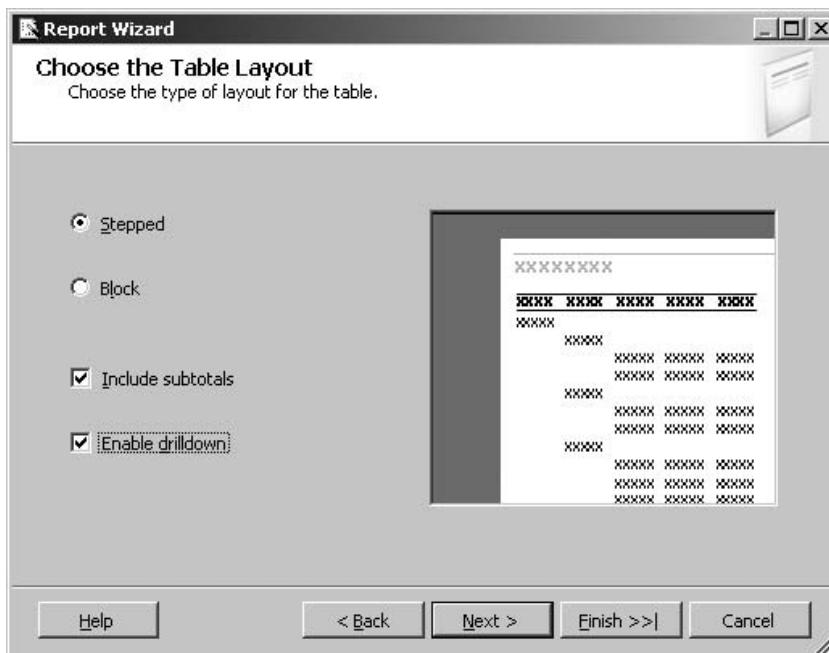

Figure 16-8 The Choose the Table Layout page of the Report Wizard
25. Leave the Stepped radio button selected. Check both the Include subtotals and Enable drilldown check boxes. The wizard page appears as shown in Figure 16-8.